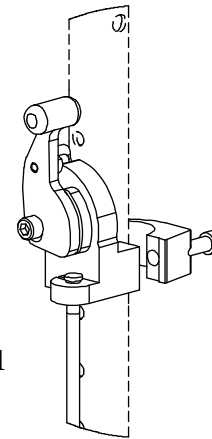

Figure 1
5. Remove screw from the clamp assembly (Item 1, Figure 1). Wrap clamps around push handle back tube, reinsert screw, slide to desired position then tighten securely.